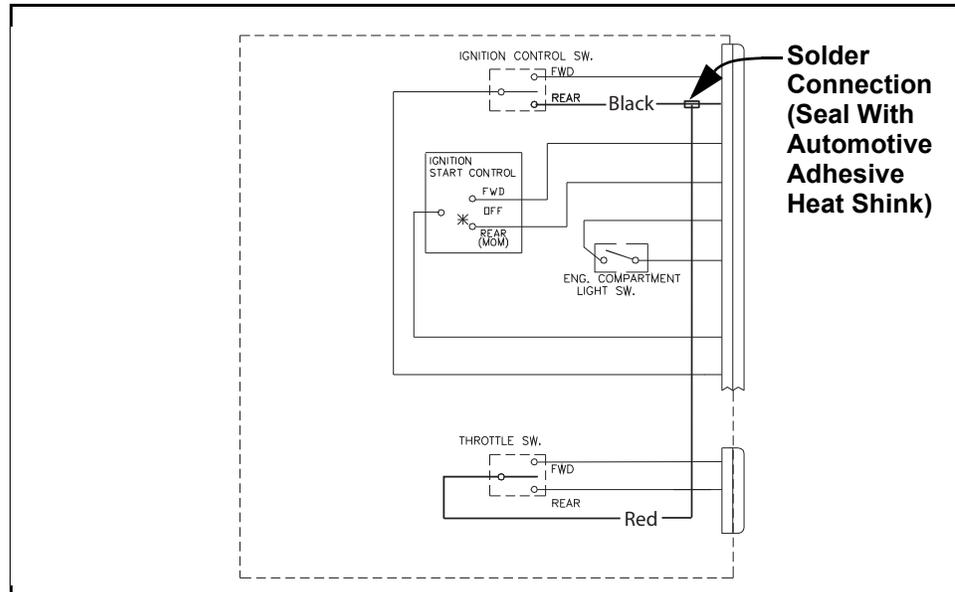

FIGURE 1-3 TYPE B - REWORKED
13. Insert W/P cavity plug into empty cavity B of THROTTLE SWITCH connector. Reworked configuration should appear as shown in Figure 1-3.